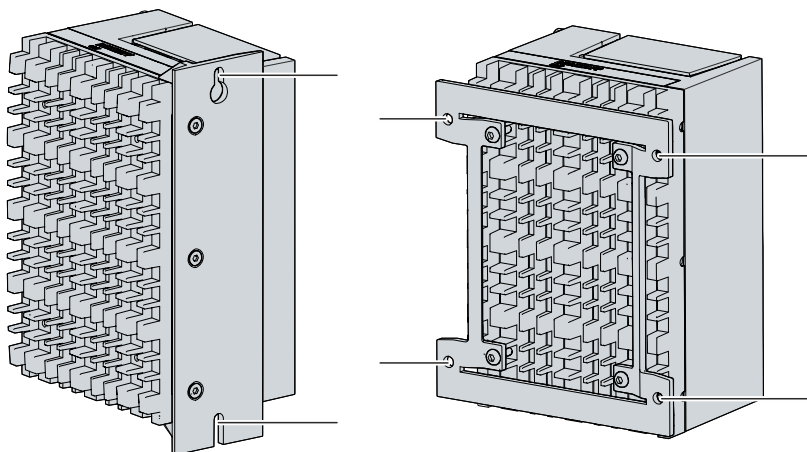

Fig. 17: Mounting plates for control cabinet installation
2. Hang the PC on the screws at the marked points of the mounting plate (see Fig. 17).